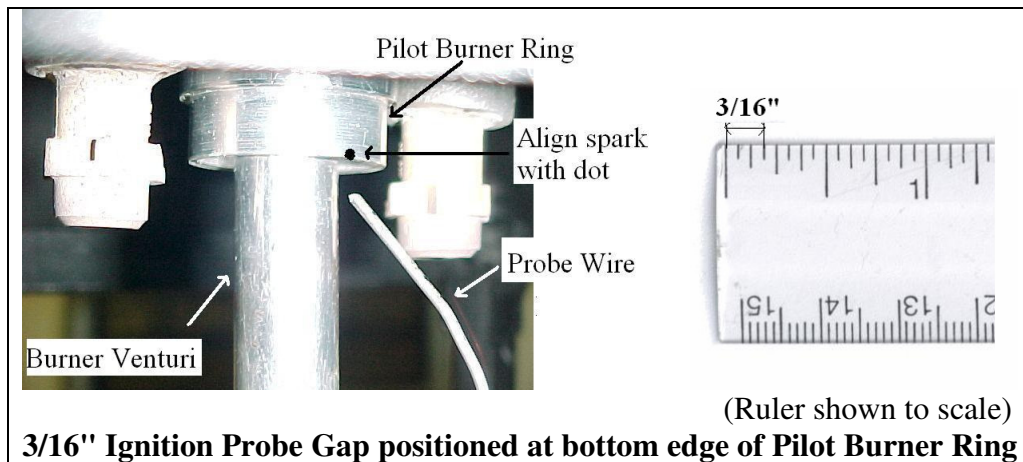

Figure 5
11. Install the Igniter/Mantle Burner (See Figure 5) in the gaslight by snapping the unit into the quick connect fitting. Check to make sure connection is secure.